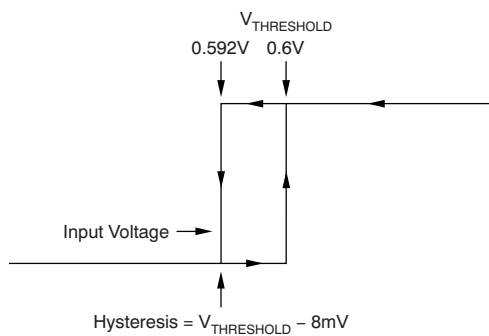

Figure 25. Typical Comparator Hysteresis
- (1) Hysteresis refers to the threshold (the threshold specification applies to a rising edge of a noninverting input) of a falling edge on the noninverting input of the comparator; see Figure 25.
- (2) Specified by design.
- (3) V_{ID} refers to the differential voltage at the comparator inputs.
- (4) Pulling the open-drain output to the range of 2.7 V to 18 V is permissible, regardless of V_S .
- (5) The comparator response time specified is the interval between the input step function and the instant when the output crosses 1.4 V.
- (6) The $\overline{\text{RESET}}$ input has an internal 2-M Ω (typical) pulldown. Leaving $\overline{\text{RESET}}$ open results in a low state, with transparent comparator operation.
Figure 25 shows the typical comparator hysteresis.